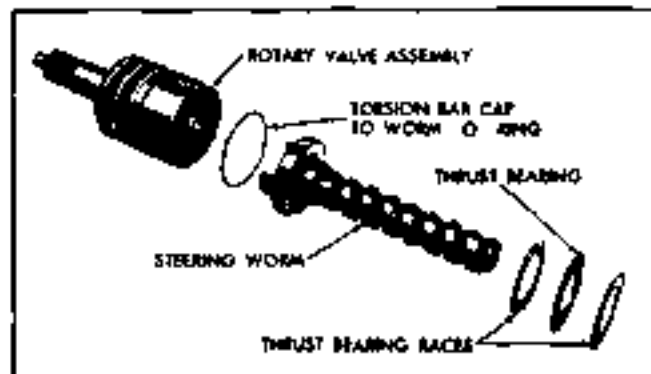

Fig. 9-76 Exploded View of Worm Shaft and Rotary Valve
1. Assemble lower thrust bearing and races on worm (Fig. 9-76).